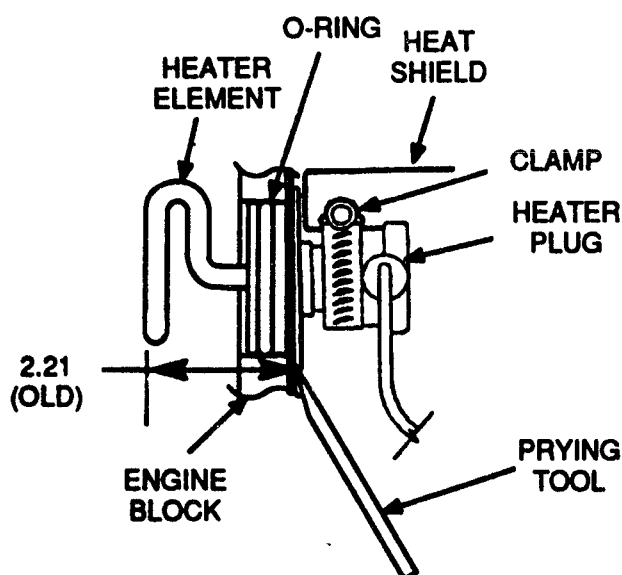

FIGURE 1. COOLANT HEATER REMOVAL
4. Remove any existing hose clamp and heat shield, then disconnect heater plug from heater element. See Figure 1.
Being careful not to damage engine block, use a screwdriver or other such tool to pry out existing heater element from engine block, and wipe the engine block hole clean. See Figure 1.